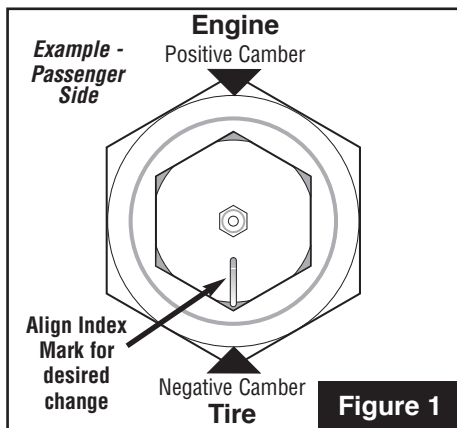

Figure 1
7. Loosen SPC ball joint 2 full turns, then clock indexing mark on top of SPC ball joint to achieve desired camber change. **(See Fig. 1)**